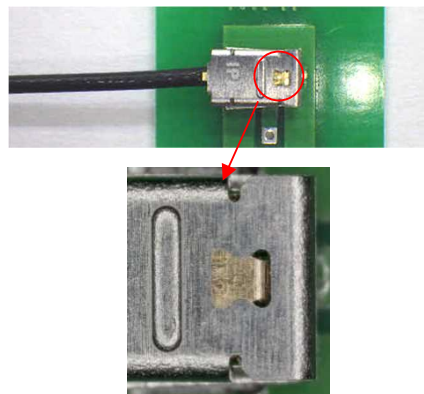

Fig.6-2 Lock state
- As shown in Fig.6-2, please slide until the connector comes to the whole hole.